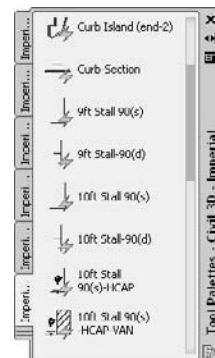

Figure 2.16
1. Mouse over the tabs or drag the bottom of the tool palette to make the tabs larger and make searching easier. When you see the Imperial Parking tools palette, click its tab to activate it as in Figure 2.16.